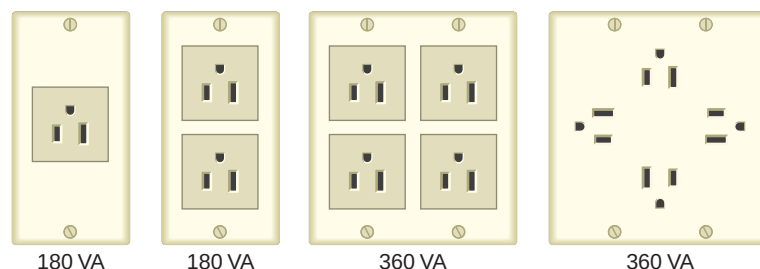

FIGURE 3-1 Minimum receptacle outlet allowance.
- A single piece of equipment consisting of a multiple receptacle comprised of four or more receptacles shall be calculated at not less than 90 volt-amperes per receptacle. As shown in Figure 3-1, the first outlet has one receptacle on a strap or yoke for a calculated load of 180 VA. The second outlet has 2 receptacles on